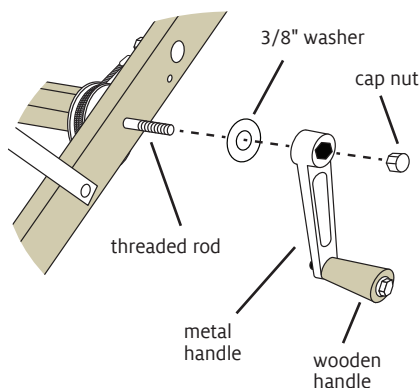

FIGURE 3: INSTALLING THE WARP BEAM CRANK HANDLE
7. The warp beam crank handle attaches to a threaded rod on the inside right leg (Figure 3). Locate the washer, cap nut, and the warp beam crank handle in the accessory pack. Place the 3/8" washer on the rod, and then the metal handle on the rod, with the wooden handle facing out. Secure with the 3/8" cap nut.